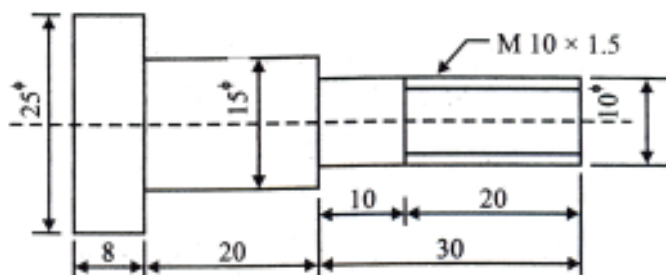

Fig. 5.25
2. Calculate the machining time required to produce one piece of component shown in fig. 5.25. Component is required to be produced from $\phi 25$ mm bar.